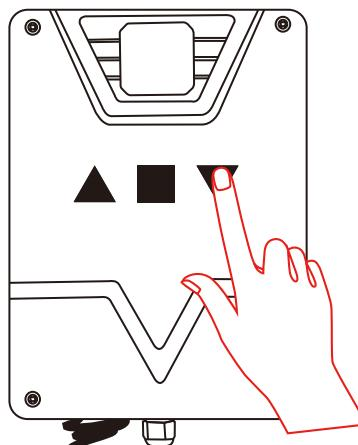

Figure 13
Step 3. Press and hold the “**Down**” button to close the gate, until the gate is closed in position then release the button. Press the “**STOP**” button to confirm the closed fully position. Fig 13